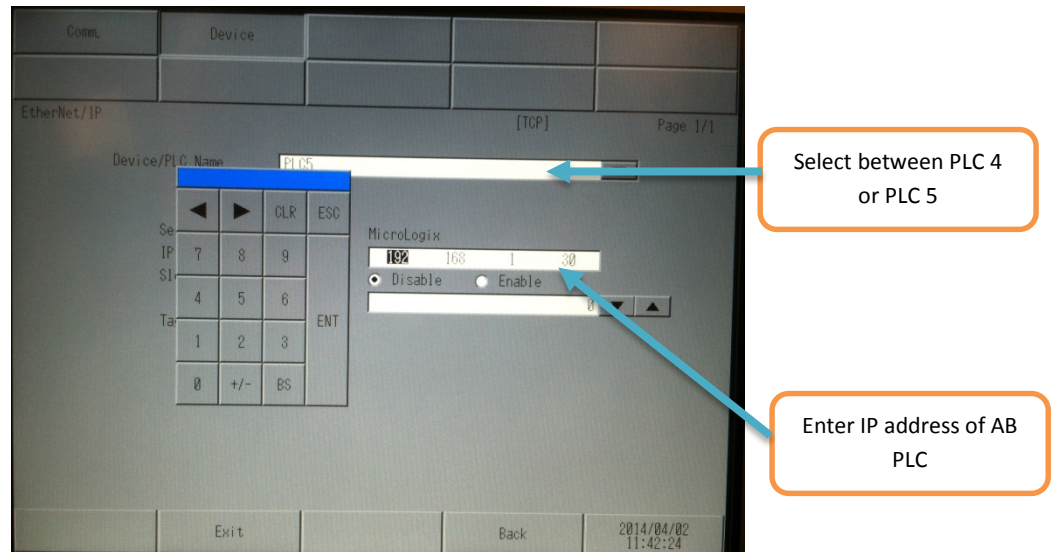

Figure 10: Selecting Device
11. Select the device communicating with the MYPRO Touch. PLC4 = Control/CompactLogix, PLC5 = MicroLogix. Reference Figure 10.